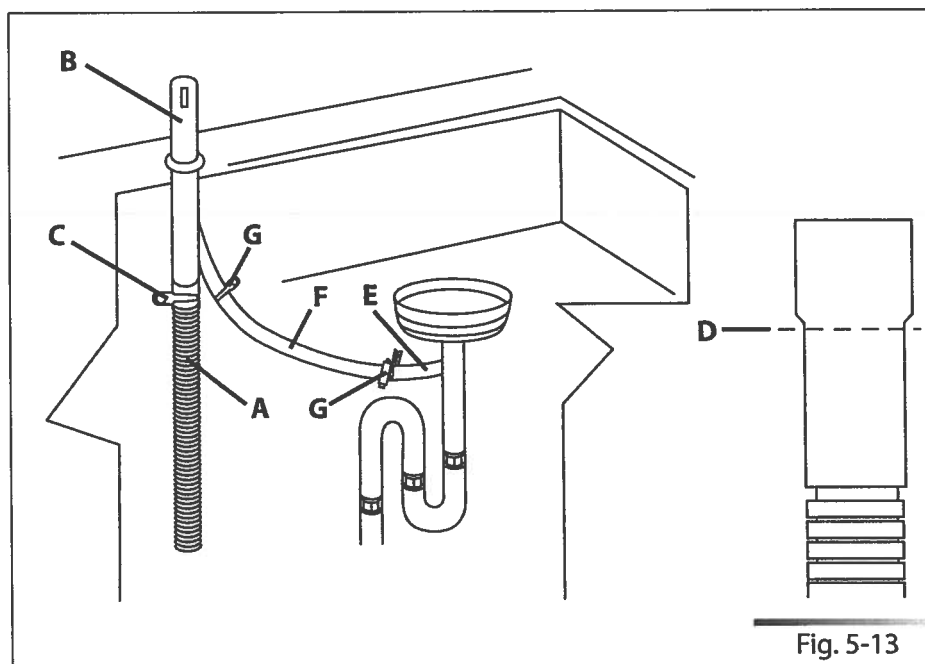

Fig. 5-13
1. Connect the dishwasher drain hose (ref. A fig. 5-13) to the air gap (ref. B fig. 5-13) using the wide spring clamp (ref. C fig. 5-13); if necessary, cut the end of the dishwasher drain hose (ref. D fig. 5-13) (do not cut the corrugated section). If the drain hose has been cut, use a 38 to 50 mm (1-1/2 to 2") screw clamp*.
2. To connect the air gap (ref. B fig. 5-13) to the "T" union (ref. E fig. 5-13) of the drain line, use a rubber union* (ref. F fig. 5-13) with spring or screw clamps* (ref. G fig. 5-13).